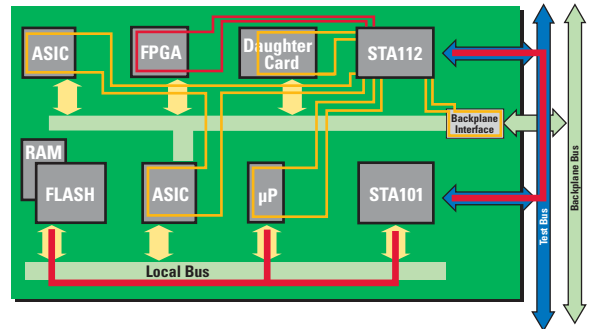

**Figure 3. Board with Partitioned JTAG Chains using SCANSTA112**
*Figure 3* shows how a JTAG chain can be partitioned to increase speed, access, and flexibility. The SCANSTA111/112 is an addressable JTAG port (also known as “bridge”) that allows the JTAG bus to be partitioned onto local scan ports (LSP) to reduce the size of the individual JTAG chains. This means the JTAG master can select one or more of these chains via LSP for focused testing or, in the case of FPGAs and FLASH memory, (re)programming. This is necessary for multi-board testing and highly desirable for FPGA programming. Breaking one long JTAG chain into smaller chains also can improve access/test time significantly. The LSPs can